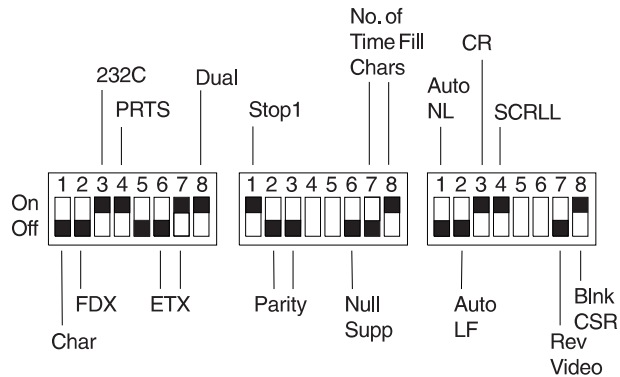

Figure 3-3. Setup Attributes for the IBM 3101 Display Terminal
**IBM 3101 Setup Attributes:** Use Figure 3-3 to determine the settings for the setup attributes for the IBM 3101 ASCII terminal.